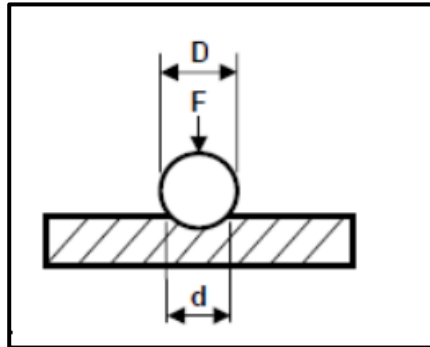

FIGURE 4.5
4.5 What does the symbol “d” denote in the Brinell hardness test shown in FIGURE 4.5 below?